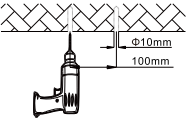

Figure 3
1. Use a chalk or sharp tool to mark signs on the top of the ceiling or wall, then drill holes on the signs by electric drill (Figure 3).